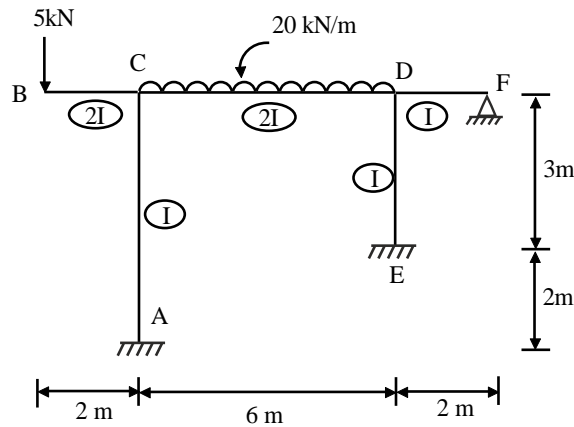

Fig. 4
4. Analyse the rigid frame by Moment Distribution Method and Draw BMD shown in fig. 4. 16